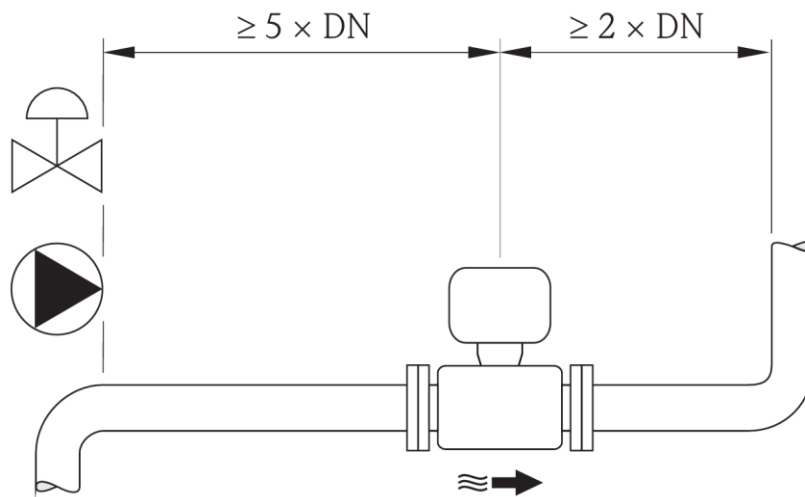

Figure 1: Installation of Electromagnetic Flowmeter
- Select the installation location by referencing the recommended mounting diagram (Figure 1).